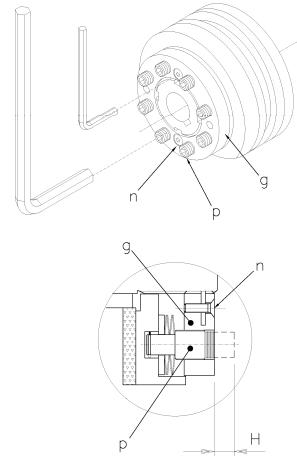

FIG. 12 : DF – GA
GHIERA CON BLOCCAGGIO ASSIALE "GA" (Gr.6.205-10.400 ; FIG.12 pos.g)
- AXIAL LOCKING NUT "GA"** (size 6.205-10.400 ; FIG. 12 pos.g)